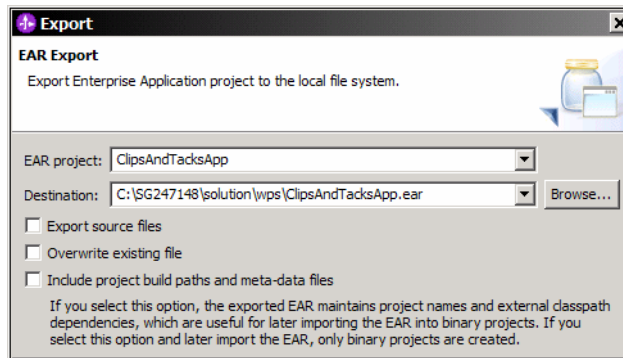

Figure 10-1 Exporting an enterprise application
- ▶ Click *Browse* to enter a destination (Figure 10-1), for example,